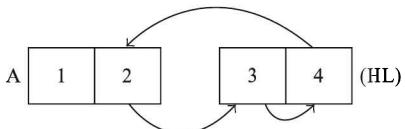

Fig. 27.7
**RRD instruction:** RRD stands for ‘rotate right digit’. It is a 2-byte instruction. The first byte indicates that it is a pure Z-80 instruction, and the second one indicates that it is RRD instruction. It works on the contents of A register and the contents of memory pointed by HL. There are a total of four hex digits in A register and the memory contents pointed by HL. However, rotate right operation is performed only on three hex digits, leaving the MS hex digit in A register unchanged. It is shown diagrammatically in Fig. 27.7.